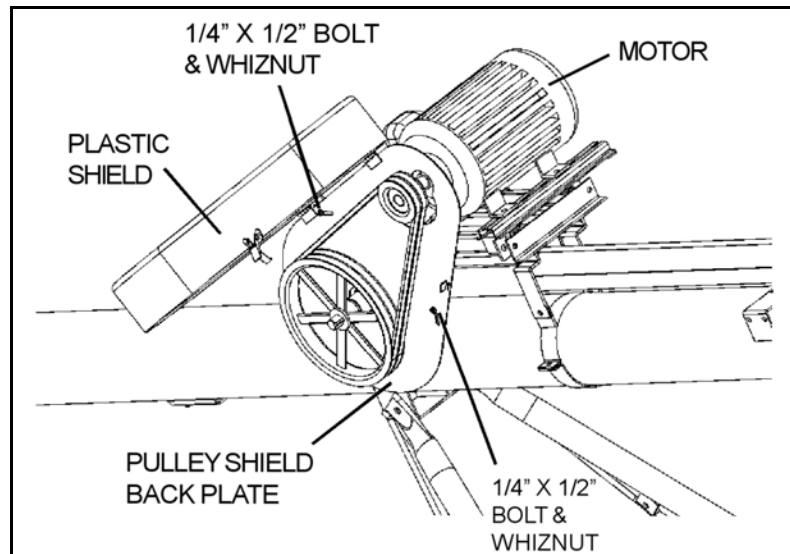

Figure 3.34
4. Attach pulley guard backplate to pulley guard bracket with two 1/4" x 1/2" bolts and whiznuts (Figure 3.34). Leave bolts/nuts loose to be tightened later.